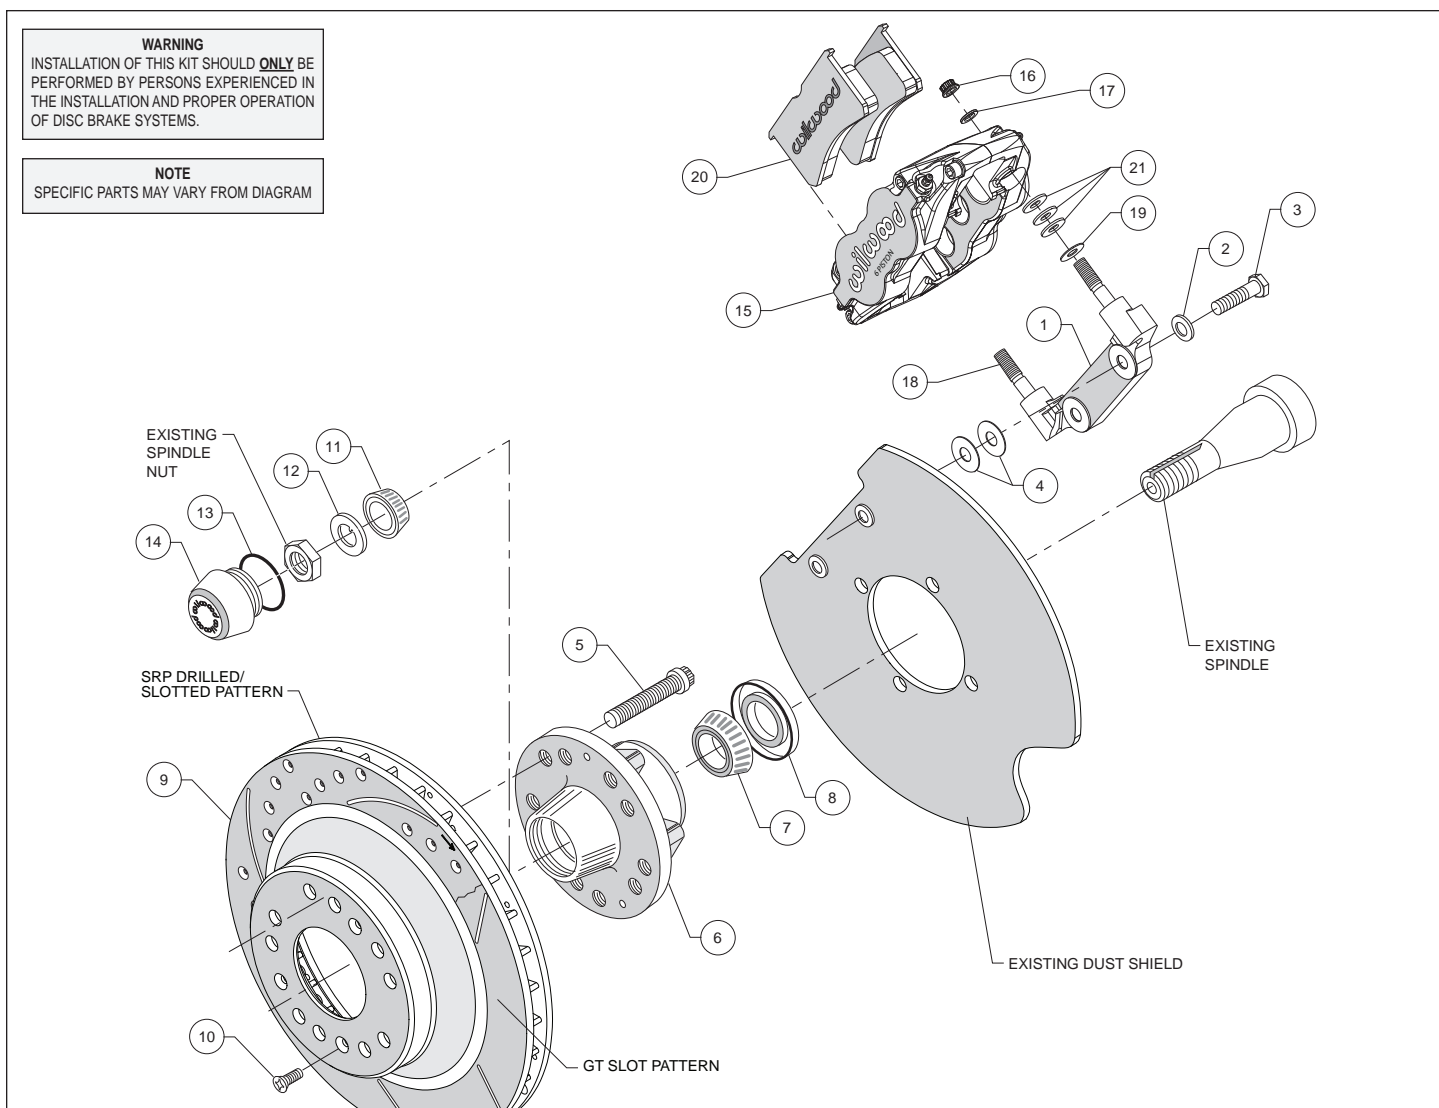

Figure 1. Typical Installation Configuration
**Assembly Instructions** (numbers in parenthesis refer to the parts list and Figure 1 on the preceding pages):
- The caliper mount bracket assembly (1) should initially be installed with clean, dry threads on the mounting bolts. Orient the bracket as shown in Figure 1 and install using bolts (3) and washers (2), Figure 1. Initially place two .030" thick shims (4), on each bolt between the bracket and spindle mounted bracket. Temporarily tighten the mounting bolts. **NOTE: The bracket must fit squarely against the spindle mount bracket.** Inspect for interference from casting irregularities, machining ridges, burrs, etc. Later, after the caliper alignment has been checked, the mount bolts will be secured using *Loctite*®.
- Install wheel studs (5) into the hub (6), Photo 1. Torque to 77 ft-lb. **NOTE: There are two five lug patterns in the hub (5 x 4.50 and 5 x 4.75).** Ensure the correct hub stud pattern is being used to fit the wheel application.
- Pack the large inner bearing cone (7) with high temperature disc brake bearing grease (available from your local auto parts store) and install into the backside of the hub (6), Photo 2.
- Install the grease seal (8) by pressing into the backside of the hub (6), flush with the end of the hub, Photo 2.
- Pack the small outer bearing cone (11) with high temperature disc brake bearing grease and install into hub (6). Slide the hub assembly onto the spindle. Secure using spindle washer (12) and OEM spindle nut, Photo 3. Adjust bearings per OEM specifications. Install saved OEM nut lock (if any) and a new cotter pin (not included).
- Screw dust cap (14) into hub (6), Photo 4. Friction created by the o-ring (13) on the dust cap keeps it from unscrewing. **NOTE: The O.D. of the existing OEM spindle washer may be larger than the I.D. of the dust cap not allowing it to seat against the hub face. Therefore, use the spindle washer (12) supplied with the kit instead of the OEM washer.**
- **NOTE:** This kit contains distinct right and left hand calipers that must be mounted in a specific direction, as described below. Lubricate the caliper mounting studs (18) with lightweight oil. Initially place three washers (21) and one .035" thick shim (19) on each stud between the caliper and the bracket, as shown in Figure 1 and Photo 5. Mount the caliper (15) onto the bracket (1) using lock nuts (16) and washers (17), Figure 1. Ensure that the caliper is mounted so the largest pistons are at the rotor exit end of the caliper, in relation to the direction of rotor rotation. Temporarily tighten the lock nuts and view the rotor through the top opening of the caliper. The rotor should be centered in the caliper, Photo 6. If not, adjust by adding or subtracting shims (4) between the caliper bracket and the customer supplied bracket. Always use the same amount of shims on each of the two mounting bolts. Once the caliper alignment is correct, remove the bracket mounting bolts one at a time, apply red *Loctite*® 271 to the threads, and torque to 60 ft-lb.